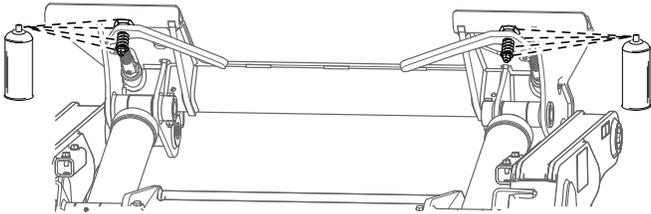

Figure 50
7. Lubricate the quick-attach linkages using spray lubricant (Figure 50).